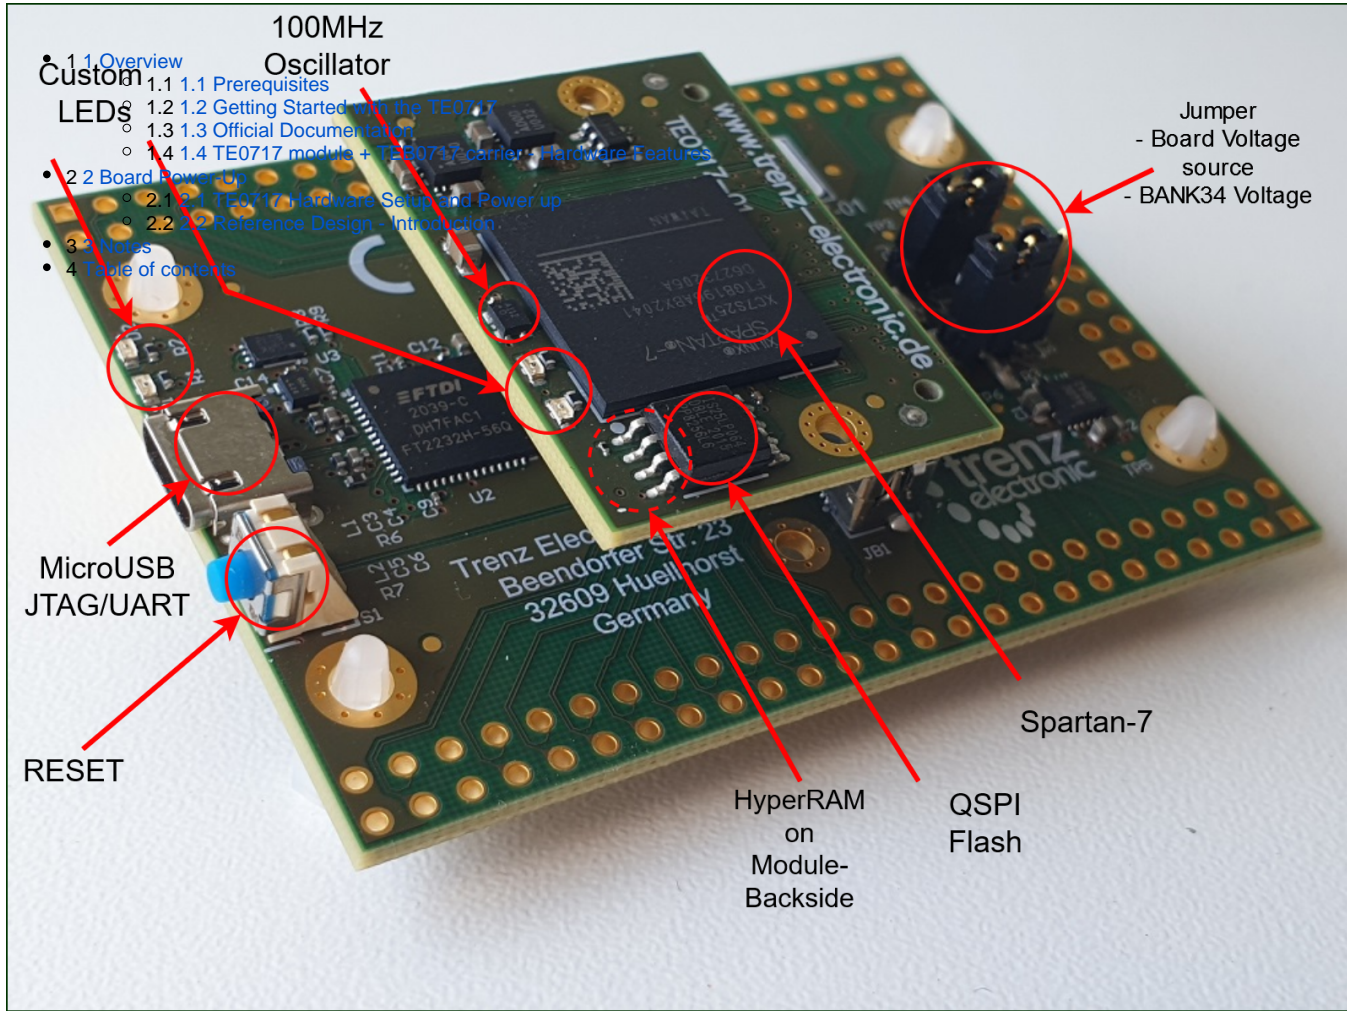

Figure 1: Module TE0717 with Carrier TEB0717
1. Before connecting the Board to the PC, make sure to properly mount the module TE0717 onto the carrier TEB0717 via the B2B connector like in Figure 1.